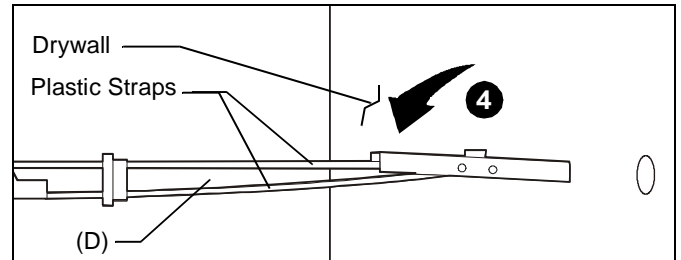

Figure 3
4. Hold metal channel on anchor (D) flat alongside plastic straps and slide channel through hole. (See Figure 3)